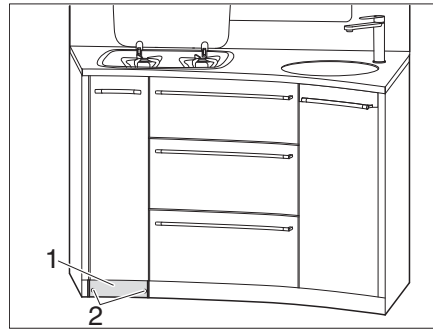

Fig. 114 Unscrewing skirting board
- Unscrew 2 screws (Fig. 114,2) from the skirting board (Fig. 114,1).
- Remove the skirting board (Fig. 114,1).